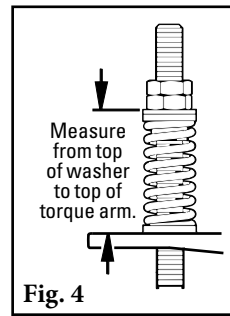

Fig. 4
4. **Reset the correct blade tension.** Refer to the charts below for the spring length or PSI required for the belt width. For PST lightly pull the pivot arm toward the end of the torque arm slot nearest the pole and turn the adjusting nuts until the required spring length is achieved (Fig. 4). Tighten jam nut.